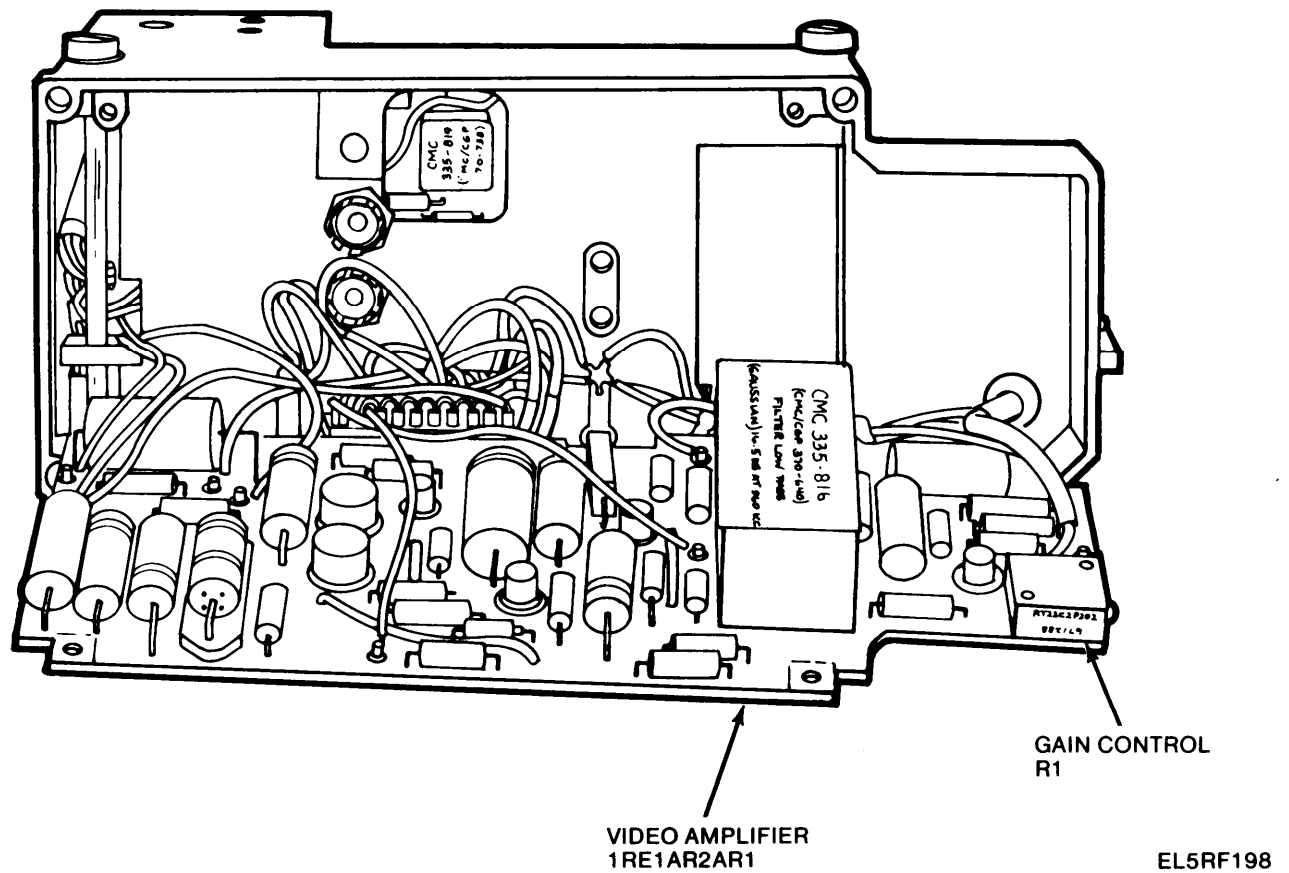

Figure 3-55. Video Amplifier 1RE1AR1, Bottom Cover Removed.
b. Defective video amplifier 1RE1AR1AR1 (fig. 3-55 and 3-56).	b. Check the signal through amplifier to isolate the defective stage. Check resistance of components in isolated stage. Refer to d below for typical readings.
Video amplifier 1RE1AR1 (fig. 3-55, 3-56, and 3-62)